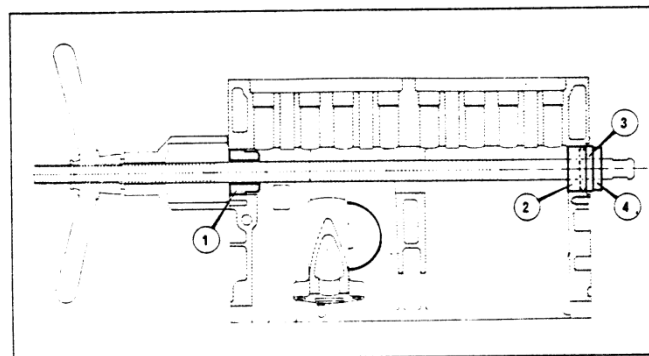

Figure 19 Removing camshaft rear bearing
- (a) Insert general tool and position pilot, mandrel and horseshoe as shown in **Figure 19**.